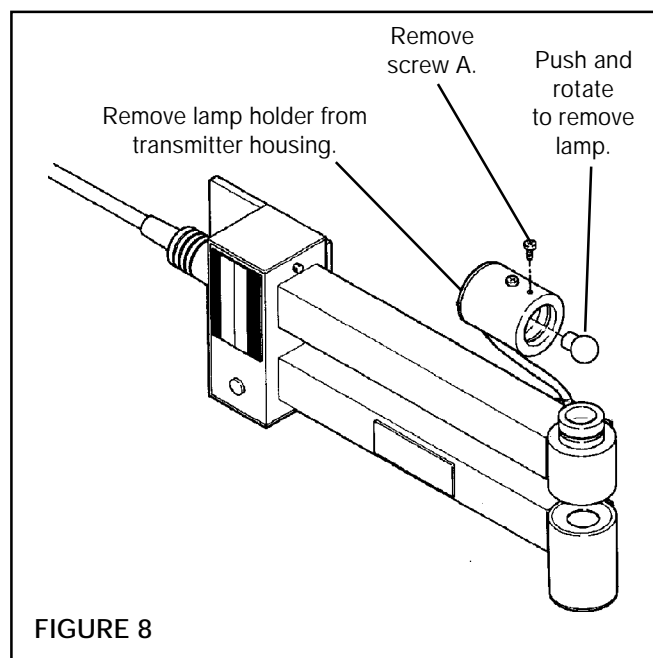

FIGURE 8
- a. Remove Screw **A** on Transmitter Housing (See Fig. 8).
- b. Pull Lamp Holder out of Transmitter Housing. (See Fig. 8).